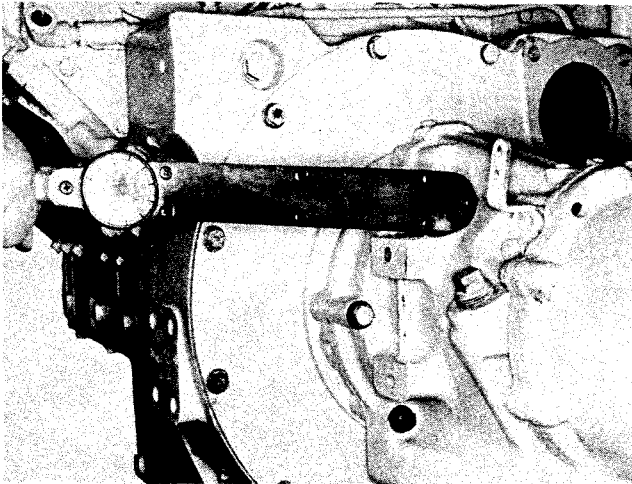

Fig. 5-15, (V11479). Torquing marine gear mounting capscrews
7. Using a suitable hoist, position marine gear to adapter plate; insert spline drive of marine gear in spline of drive plate. Secure with lockwashers and capscrews; torque to 48 to 50 ft-lbs [6.64 to 6.91 kg m]. Fig. 5-15.